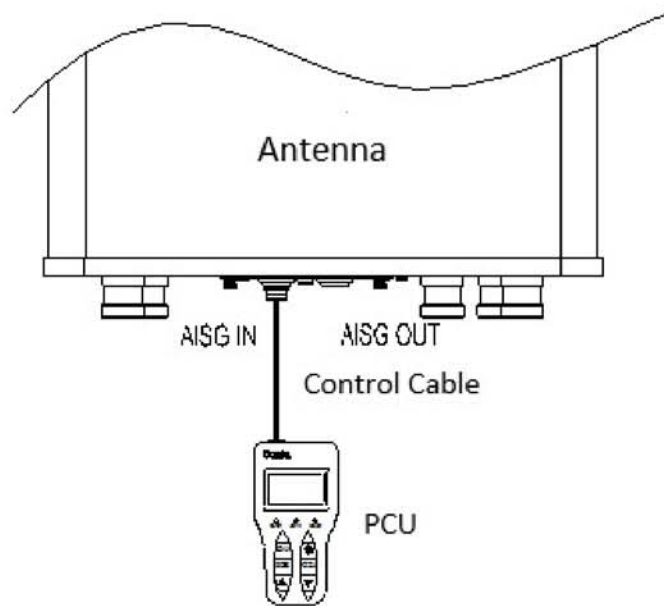

Figure 4-3 AISG Control Cable to PCU
c) Figure 4-3, connect the control cable to the AISG Connector locate at the lower part of the IRCU and tighten the connector.